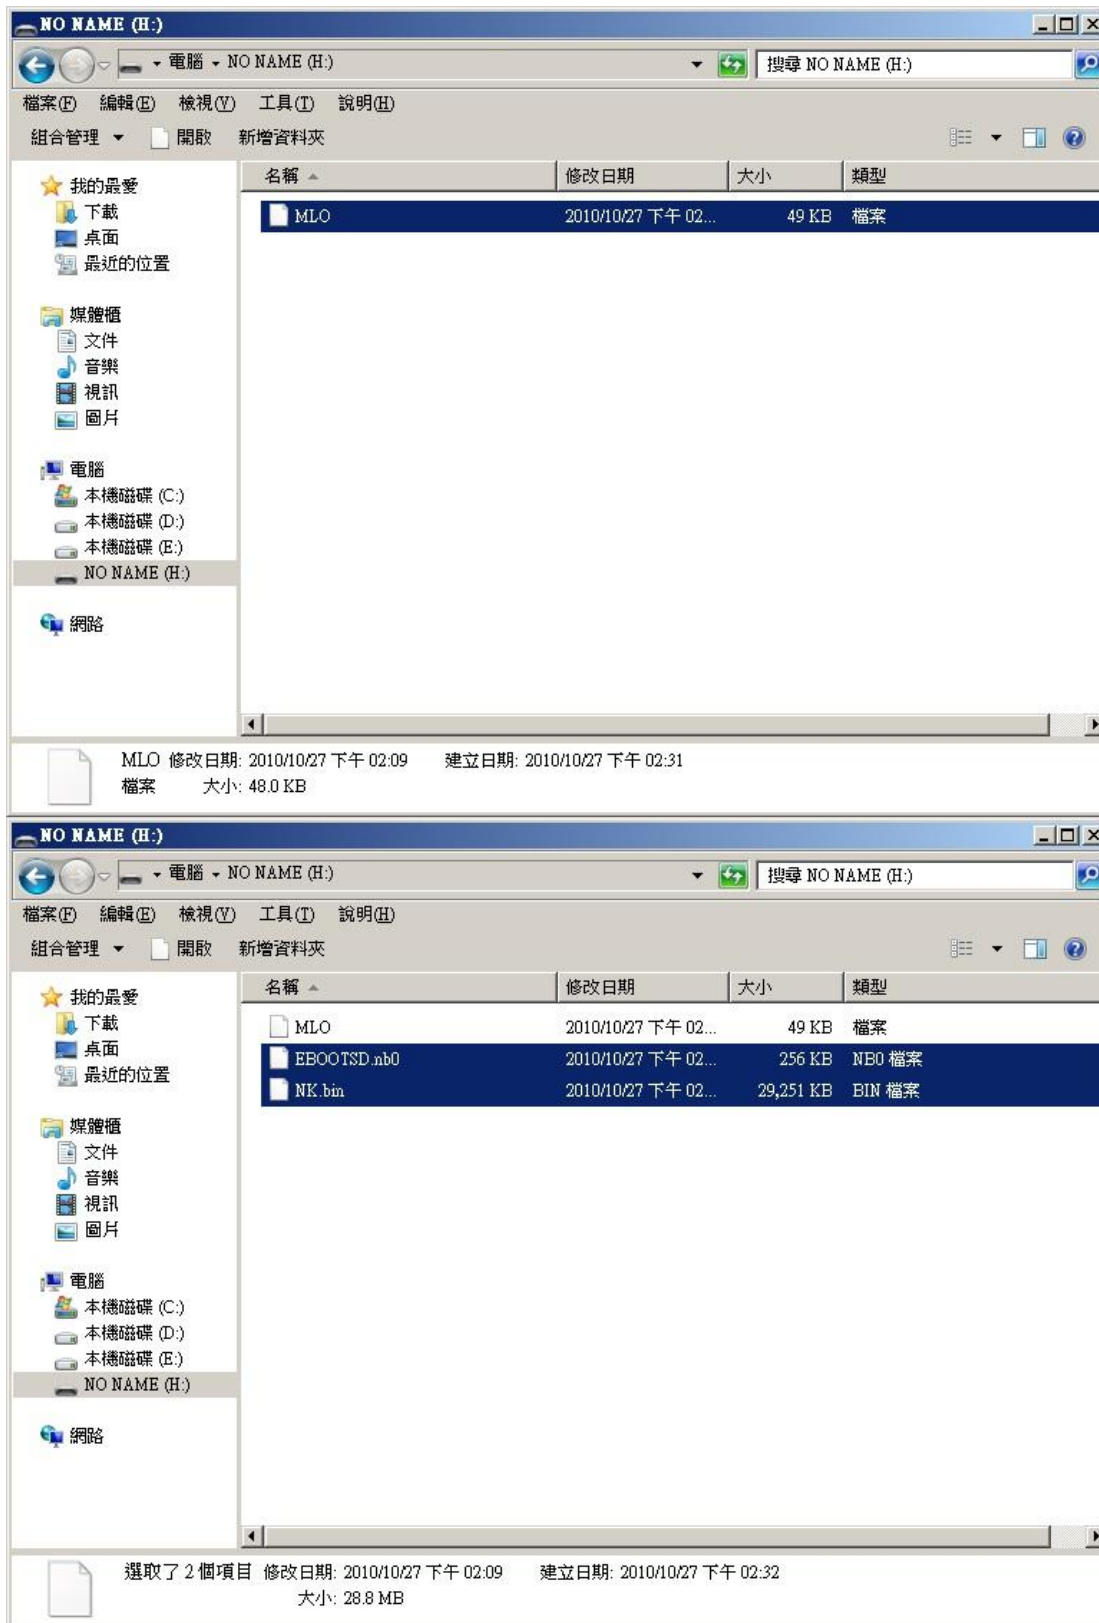

Figure 14
- Then copy “EBOOTSD.nb0” and “NK.bin” in the microSD card (See figure 14)